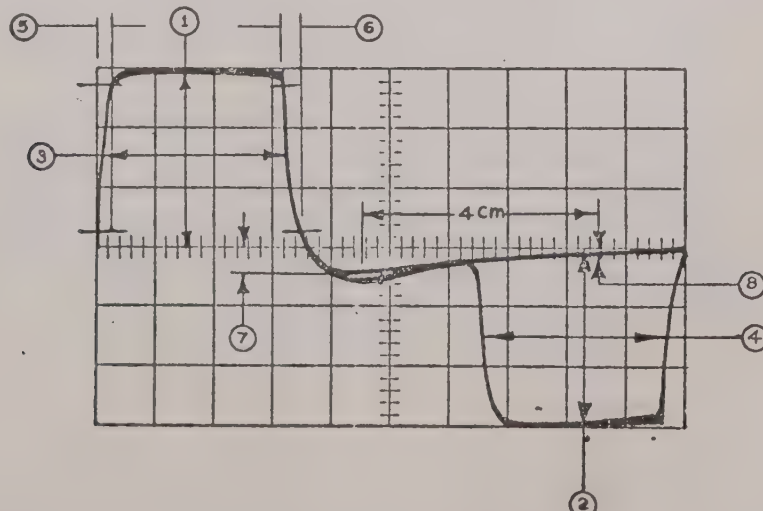

Figure 5-8: Bipolar Waveform
- c. Adjust the Oscilloscope for a vertical sensitivity of 0.05V/division and a sweep-rate of 0.1 μ sec/division (magnifier off). Adjust the trigger, intensity, and position controls to obtain the waveform shown in Figure 5-8.
- d. The measurements designated ① and ② in Figure 5-8 should be between 2.7 and 3.3 cm (1.35 and 1.65 volts). Measurements ① and ② should differ by not more than 0.15 cm (0.075 volts).
- e. Measurements ③ and ④ should be between 3.0 and 3.5 cm (300 and 350 nsec). Measurements ③ and ④ should differ by not more than 0.15 cm (15 nsec).
- f. Measurements ⑤ and ⑥, taken between 10% and 90% of peak points, should be less than 0.8 cm (80 nsec).
- g. Measurement ⑦ should be between 10% and 30% of the base line to peak reading (norminally 0.3 to 0.9 cm for a 3.0 cm peak).
- h. Measurement ⑧, taken 4.0 cm to the right of the point of measurement ⑦, should be less than 10% of measurement ⑦ (note: It may be necessary to increase the vertical sensitivity in order to make this measurement).
- l. Remove the three terminations one at a time observing the Oscilloscope trace. The trace should not be altered as the terminations are removed. Finally, move the Tapped Termination to one of the three other output jacks. The waveform of Figure 5-8 should re-appear on the Oscilloscope.